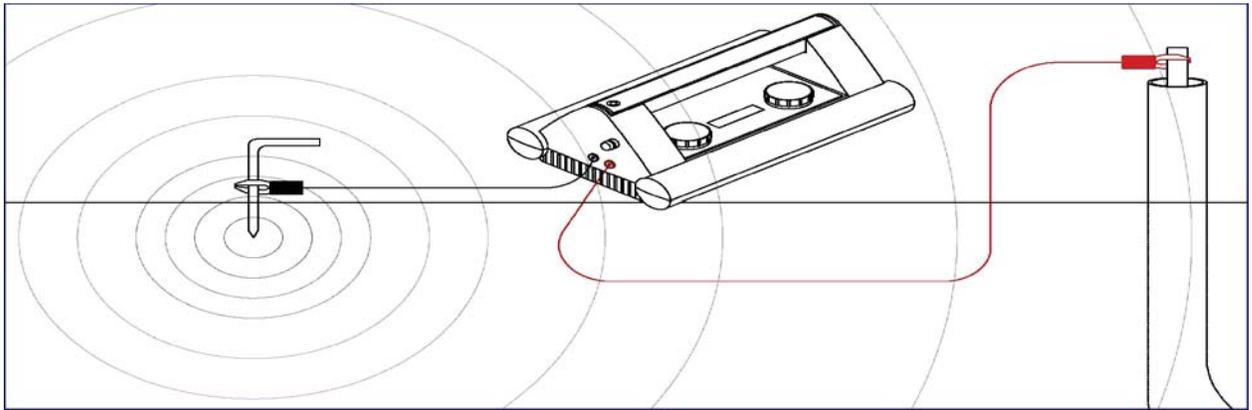

Figure 3-3: Clamping Red Lead to Conductor
- 5 Clamp Red lead to target conductor sheath. **See Figure 3-3**